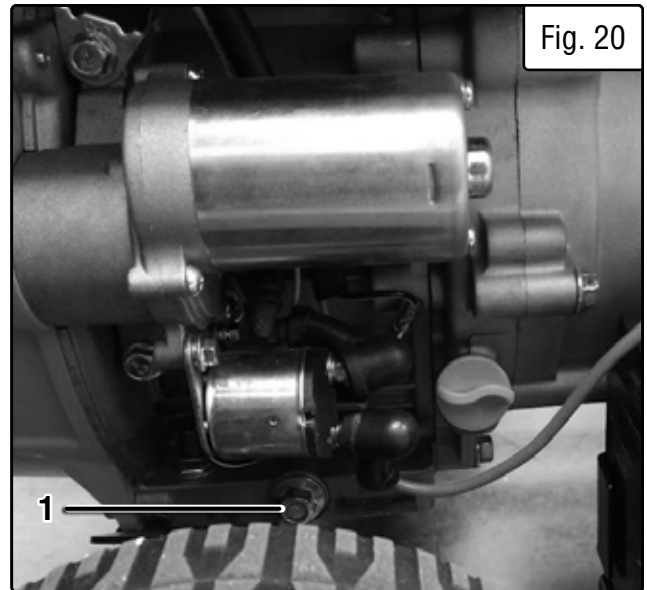

Fig. 20
2. Prepare an approved oil-storage container and place it below the oil drainage bolt (Fig. 20 - 1) to catch oil as it drains.